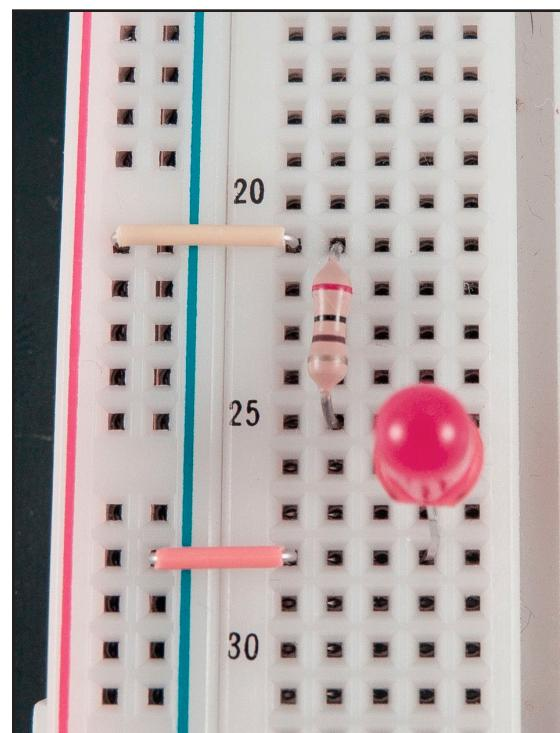

Figure 3.10 Wired LED
2. Hook up the resistor and the LED in series. It doesn't matter which one you connect first; however, be aware that the orientation of the LED does matter (see the sidebar Diode Polarity). The finished circuit is shown in Figure 3.10.
2. Connect pin 3 to the input of the LED that was wired up in Figure 3.10.